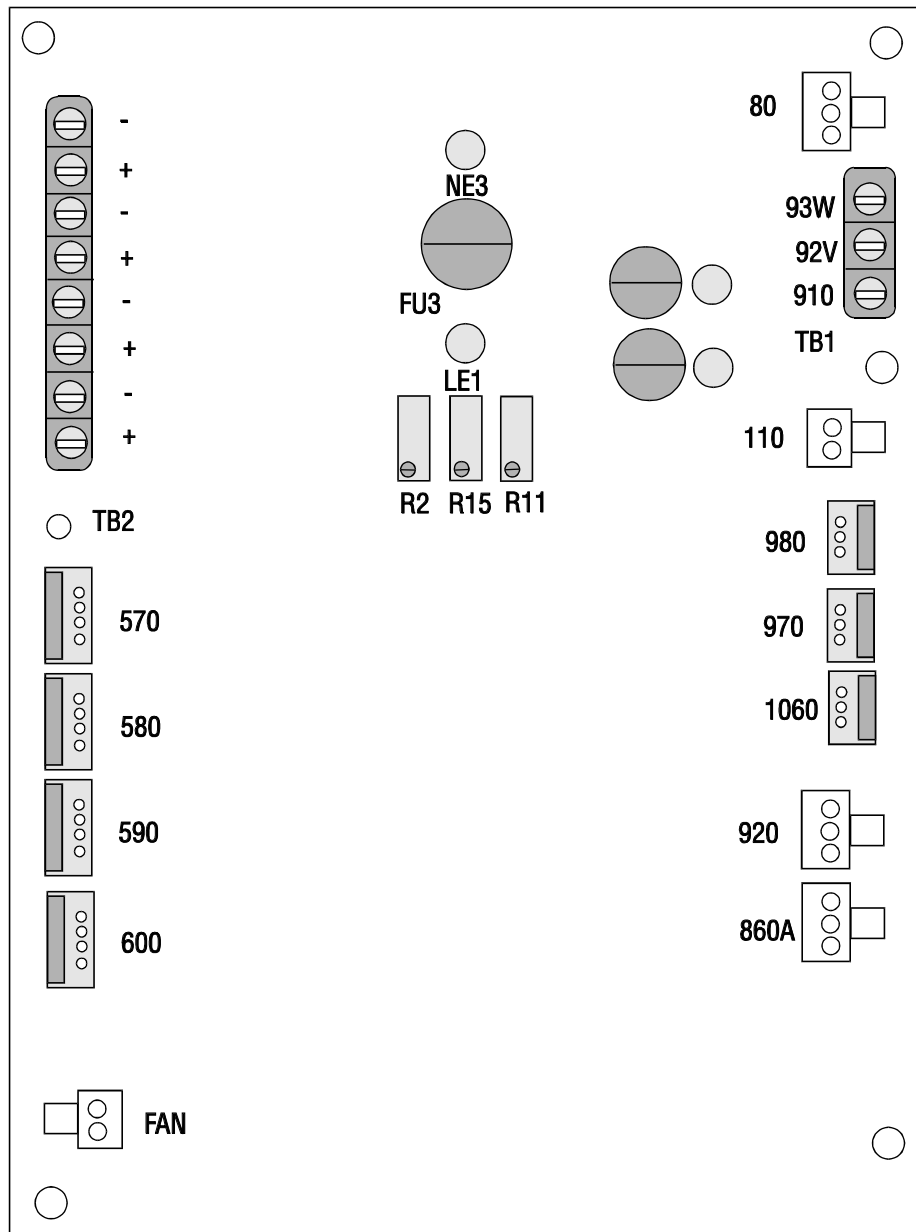

Fig. 3-4 SDIST board.
4. Disconnect all leads to the Servo Distribution (SDIST) board. Ensure all cables are clearly marked for reconnecting later. The following illustration (Fig. 3-4) shows all cable numbers and the locations on the SDIST board.